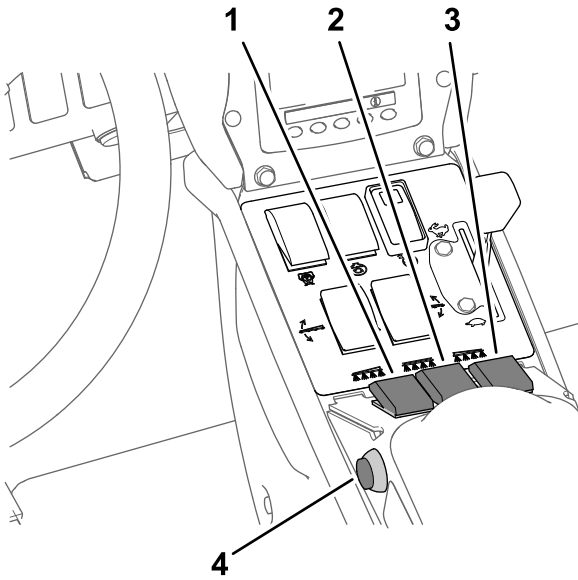

Figure 29
7. Set the spray section switch(es) to the ON position (Figure 29).
10. Drive at the desired speed and then set the master section switch to the ON position to begin spraying (Figure 29).
3. Set the master section switch to the OFF position; refer to Figure 29 in *Spraying in the Application Rate Mode* (page 32).
- Set the individual section switches, as needed, to the ON position; refer to Figure 29 in Spraying in the Application Rate Mode \(page 32\).
- Drive at the desired speed and then set the master section switch to the ON position to begin spraying; refer to Figure 29 in Spraying in the Application Rate Mode \(page 32\).